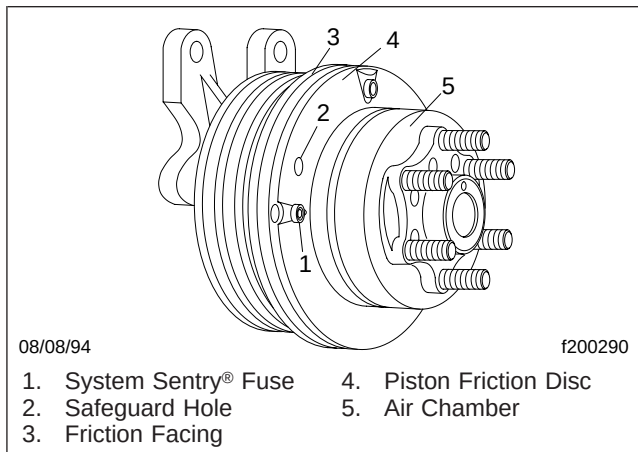

Fig. 6, Horton Advantage Fan Clutch
6. Check for wear on the friction facing. See **Fig. 6**. Replace the friction facing if it is worn to a 1/16-inch (1.6-mm) thickness or less. Also check the facing for signs of oil contamination or burn marks. If evidence of oil or burn marks are found, replace the friction facing.